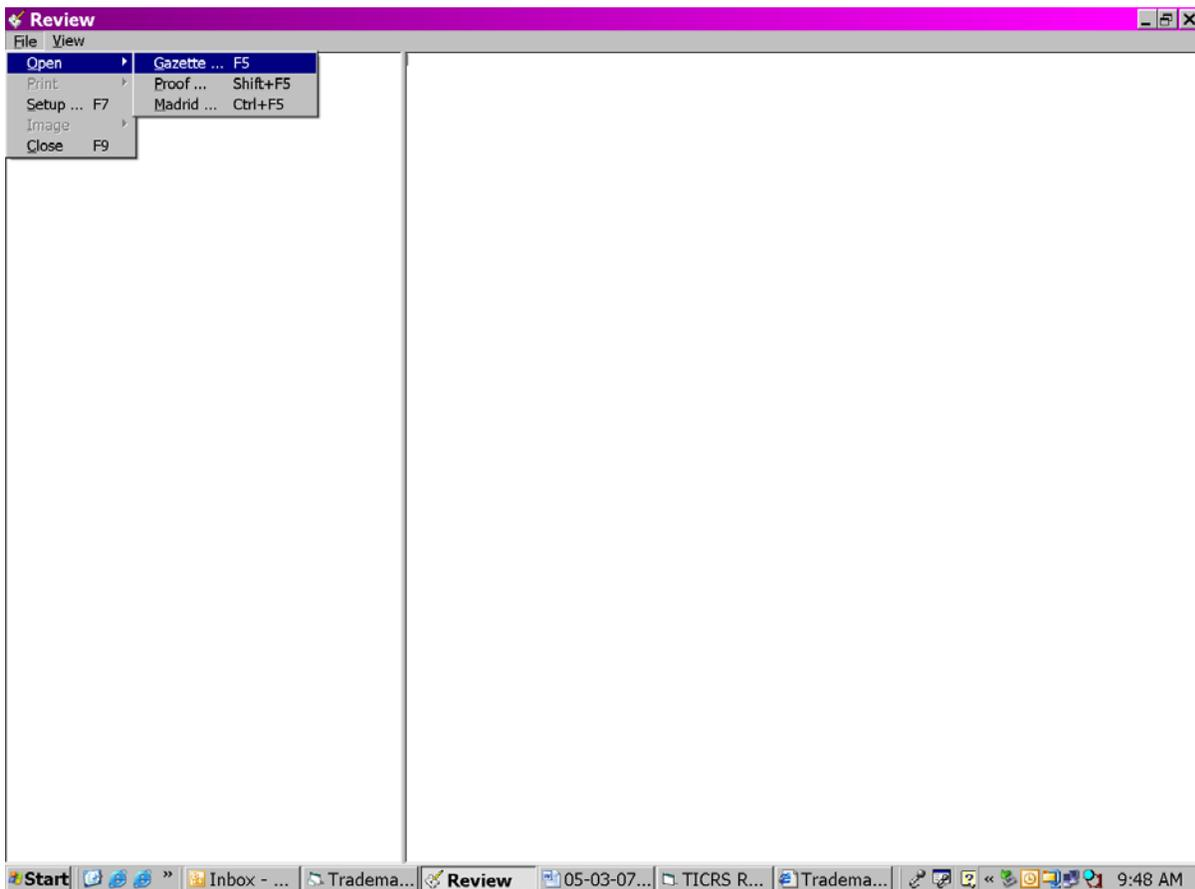

Figure 1-18: The Trademark Publication Review Screen
Step 1: Double-click the Trademark Publication Review icon on the desktop to access the Trademark Publication Review screen (Figure 1-18).